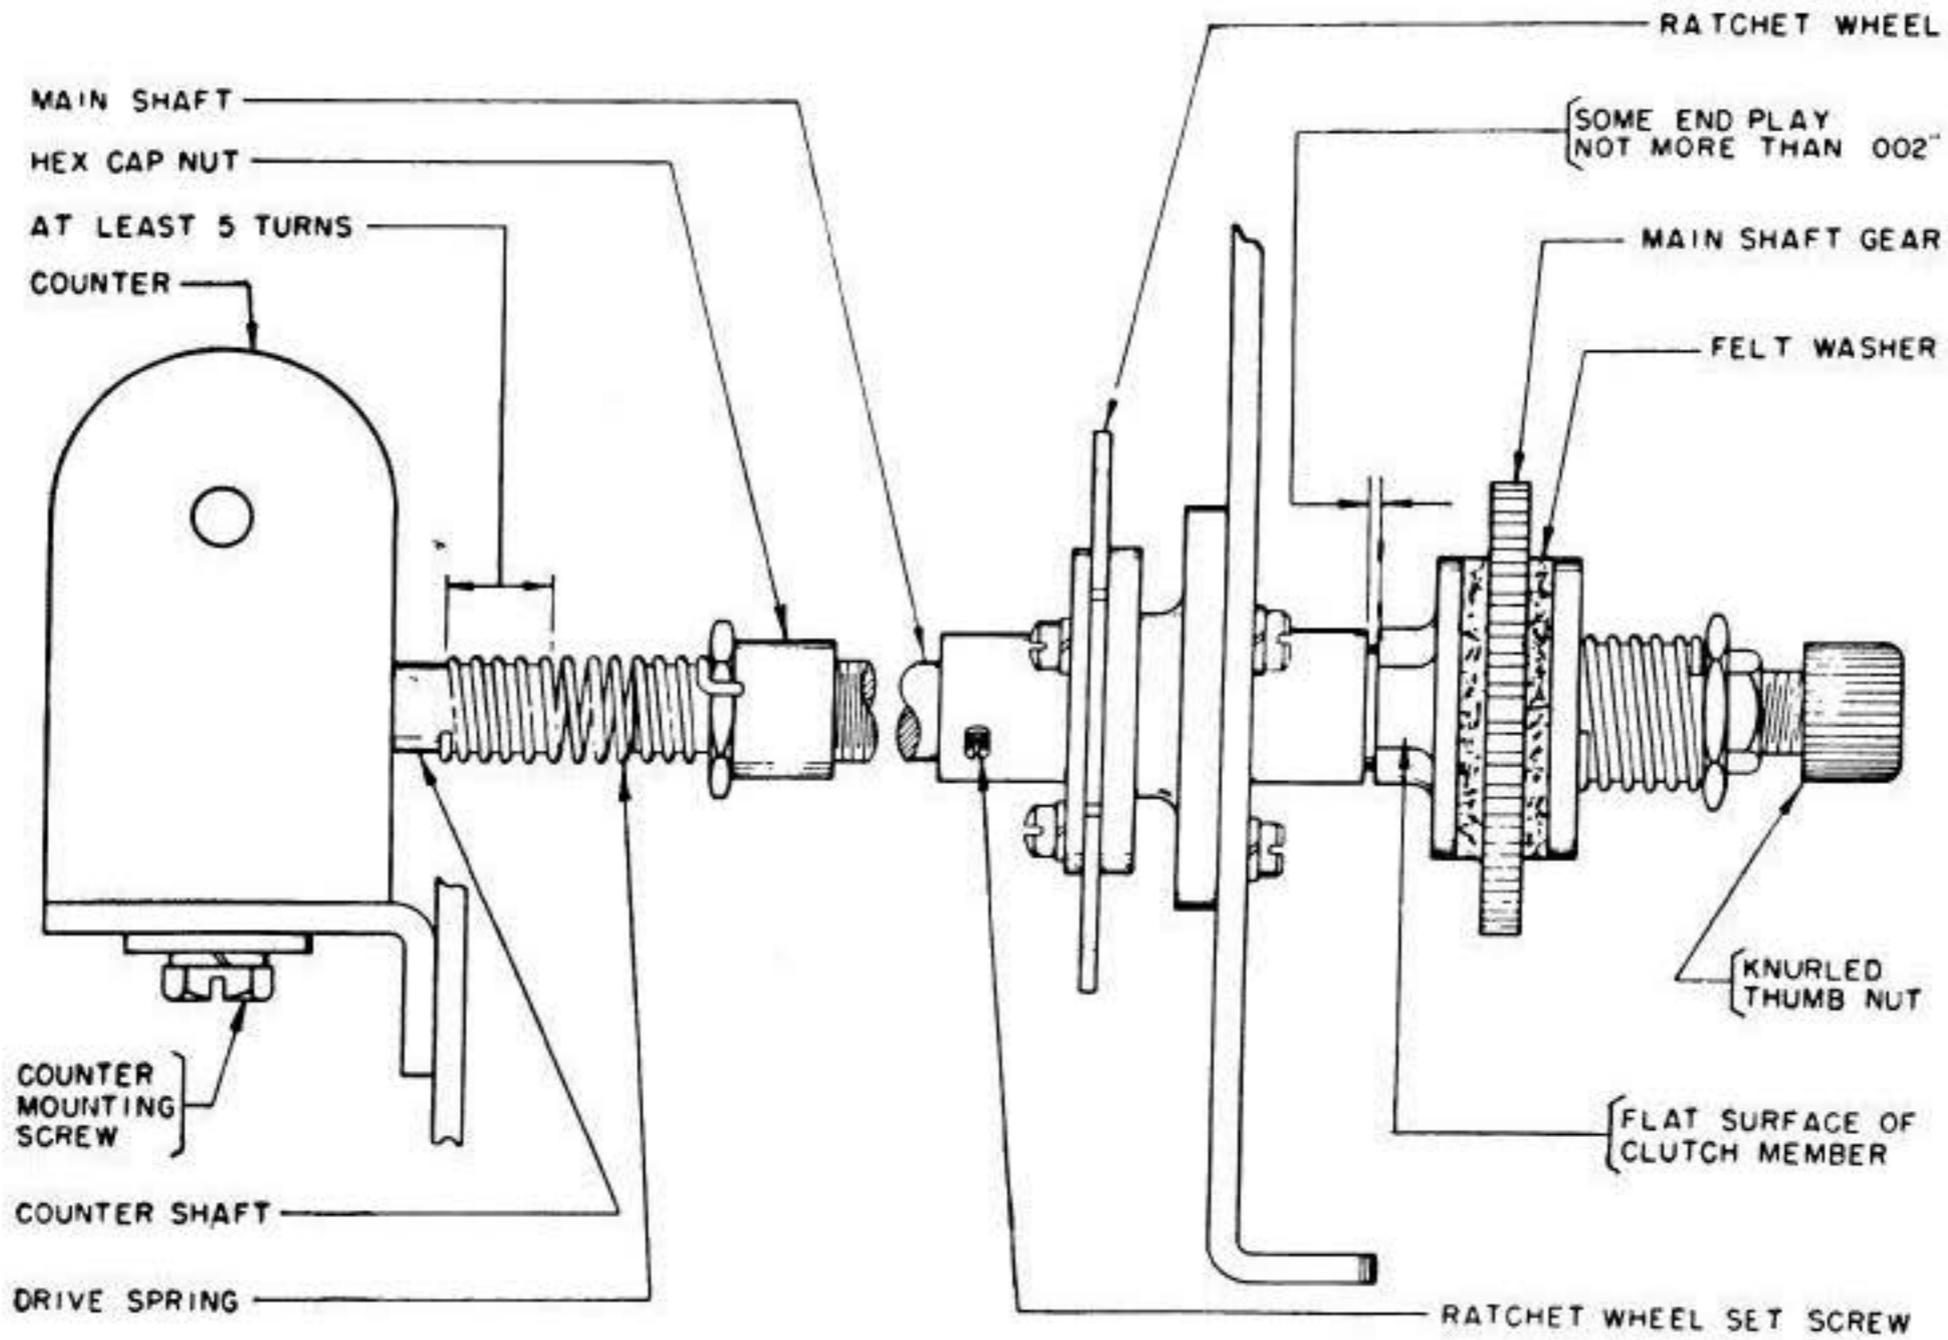
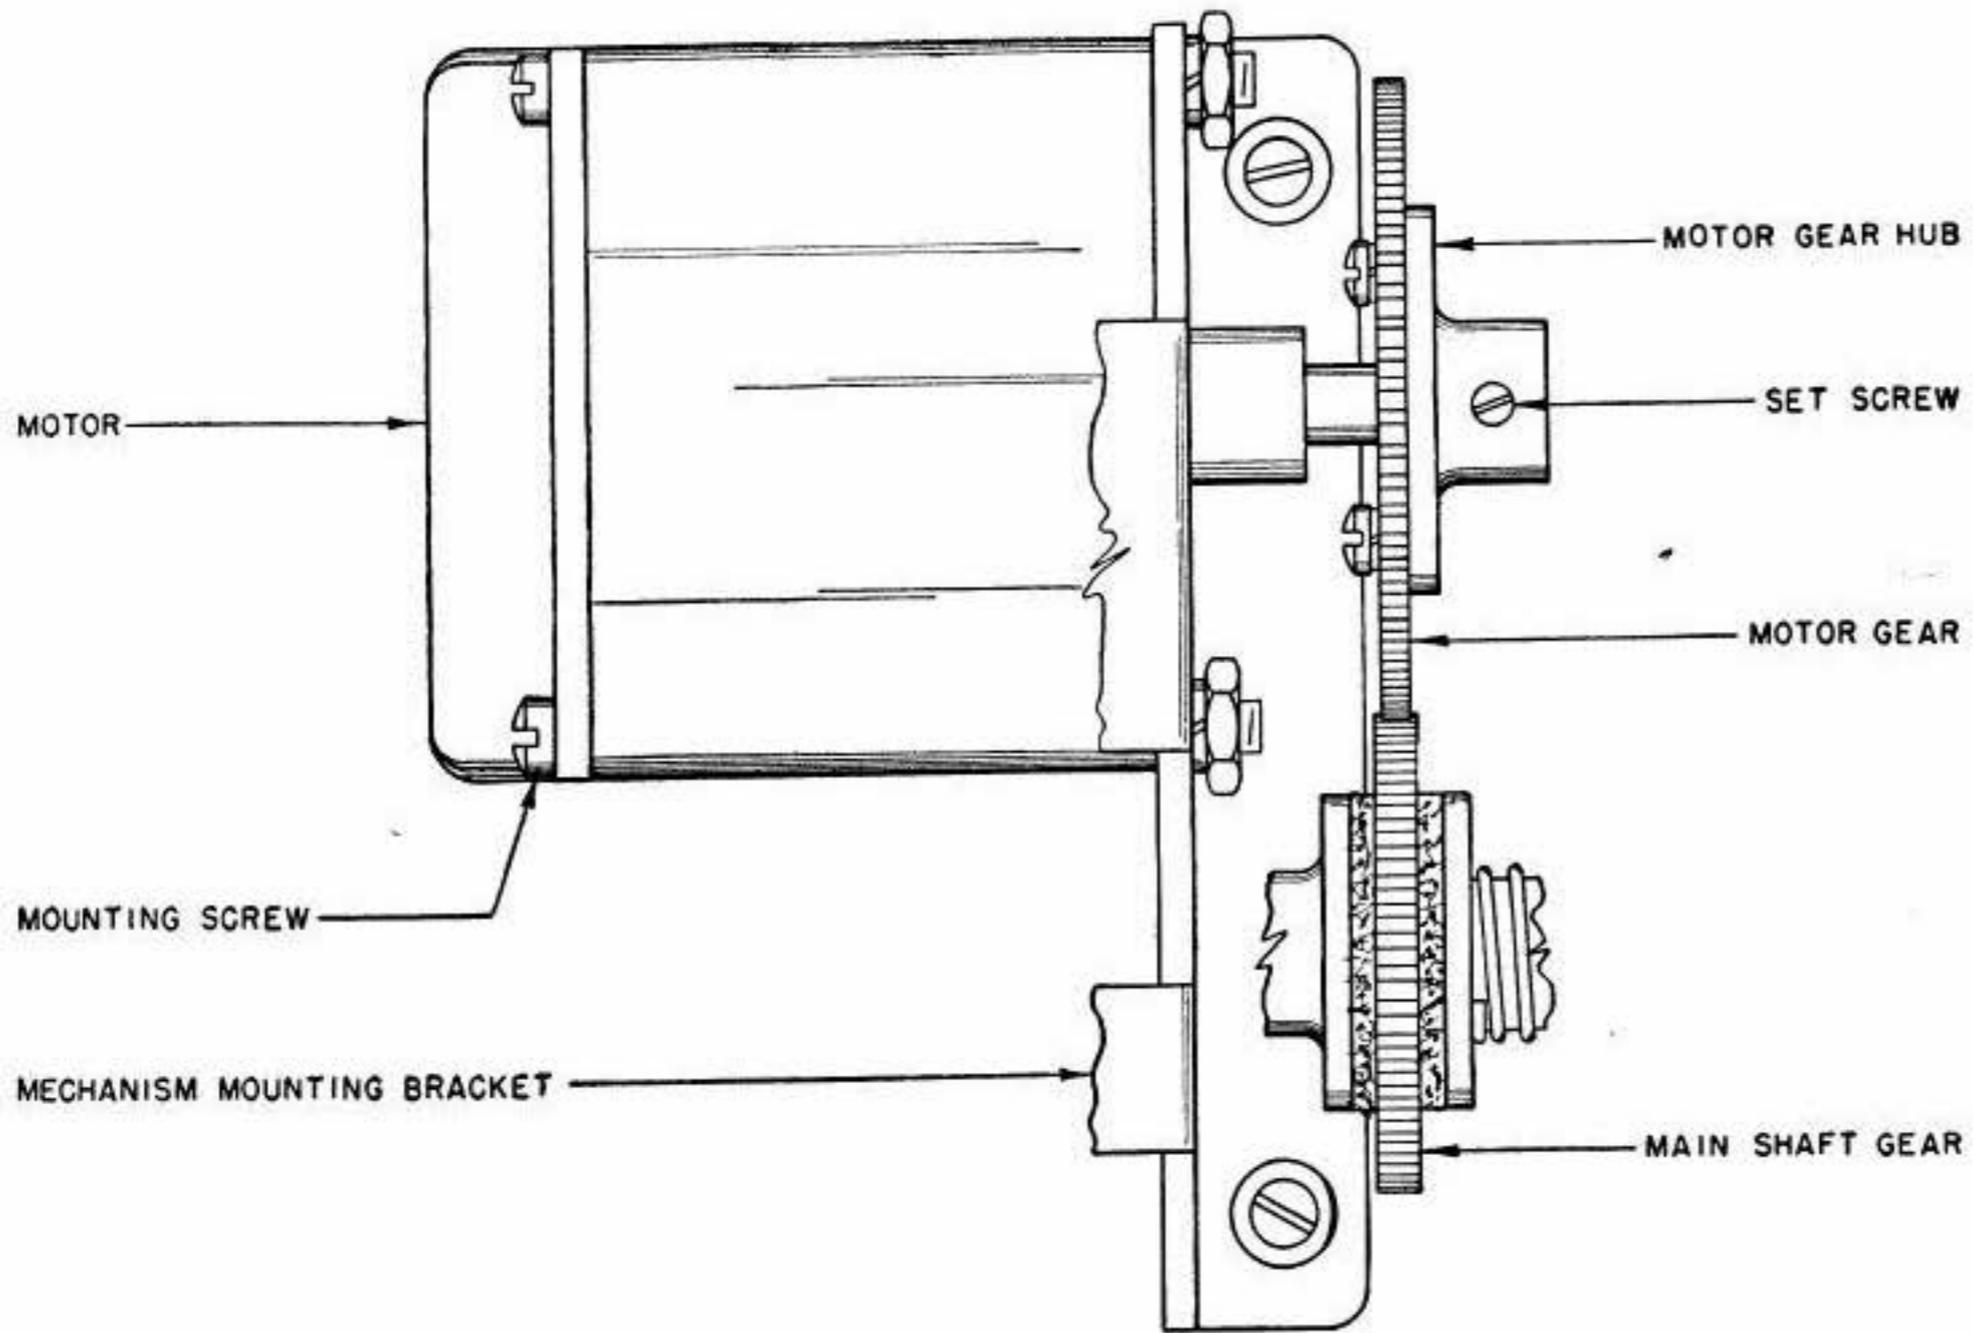

Fig. 2
Fig. 3
3.01 Fig. 2 shows the main-shaft assembly and Fig. 3 the motor with mounting and gearing to the main-shaft gear. **Figs. 2, 3**
(a) To adjust, position the ratchet wheel with its set-screw loosened. If necessary, disconnect the counter as follows: With the motor shut off and the ratchet-wheel stop-lugs held clear of the stop-arms, hold the shaft with a wrench on the flat surface of the clutch member and remove the hex cap nut and attached drive-spring. **Fig. 2**
(a) To adjust, remove the counter mounting-screws, remove the hex cap nut, and remove the counter with hex cap nut and drive-spring still attached. To increase or decrease the number of turns of the drive-spring on the counter shaft, hold the counter shaft and rotate the spring in a direction to loosen its coils while pushing or pulling at the same time. Replace the hex cap nut, with attached drive-spring and counter, on the main shaft. Replace the counter mounting-screws. **Fig. 2**
(a) To adjust, position the counter in its oversize mounting-holes with the mounting-screws loosened. **Fig. 2**
(a) To adjust, position the motor gear and hub assembly with its set-screw loosened to meet the first requirement and position the motor by means of its oversize mounting-holes to meet the second requirement. **Fig. 3**